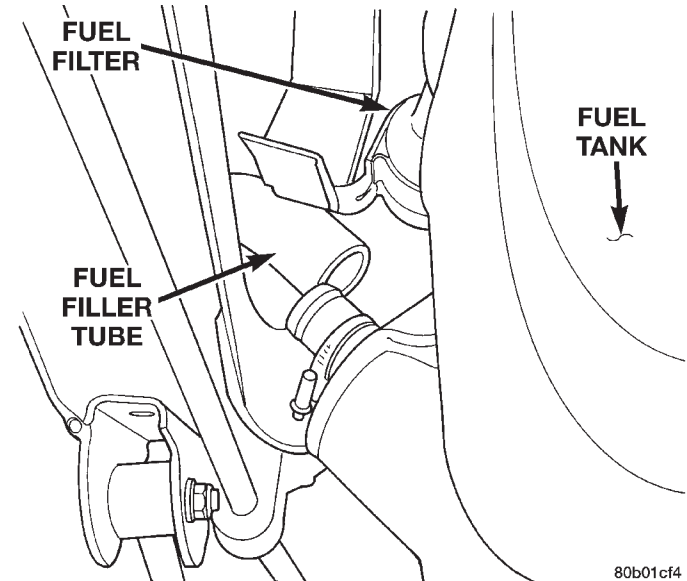

Fig. 21 Fuel Filler Tube
(5) Loosen and remove fuel filler tube from fuel tank (Fig. 21).